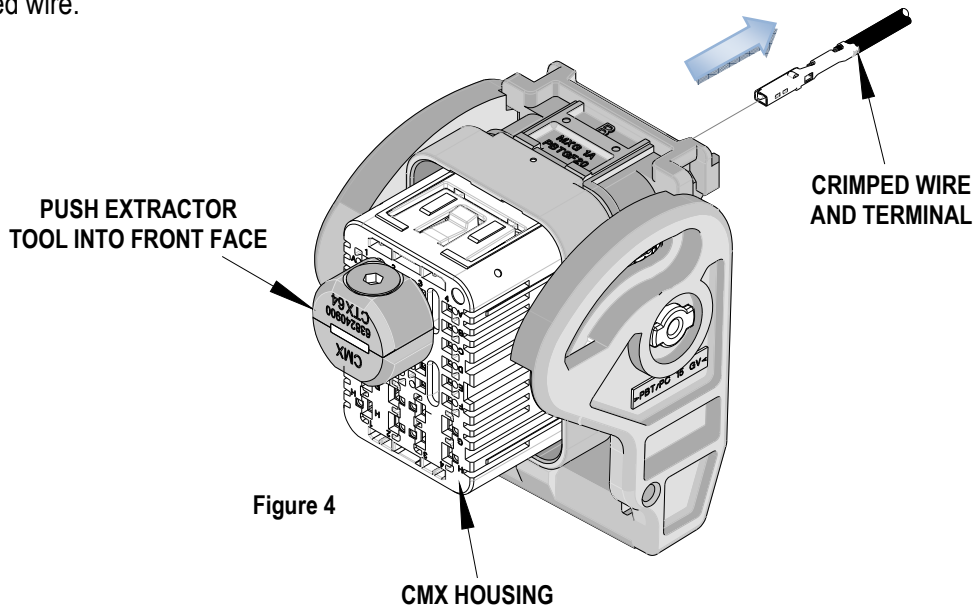

Figure 4
5. Push extractor tool into the desired orientation slot until it clicks or comes to a stop. Do not force the extractor tool any further or there can be damage to the housing. See Figure 4.